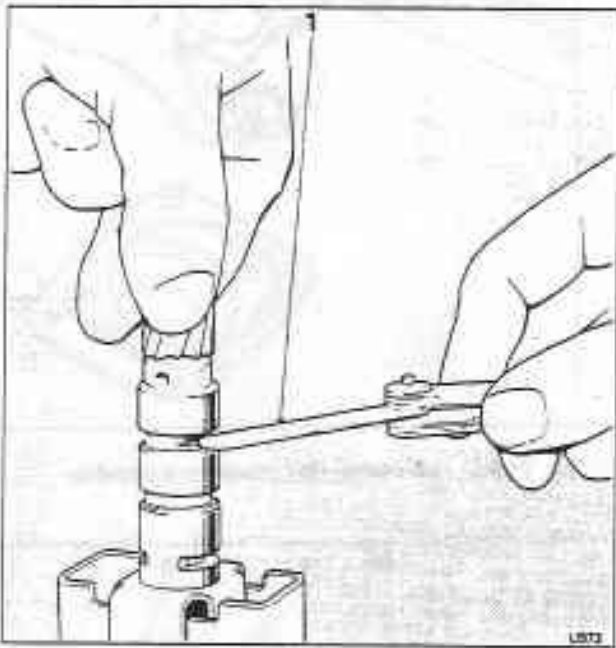

Fig. T10-3 Check valve opening (inlet)
9. Hold the governor as shown in figures T10-3 and T10-4. Then, check that there is a minimum of 0,51 mm (0.020 in) at the inlet and exhaust openings.